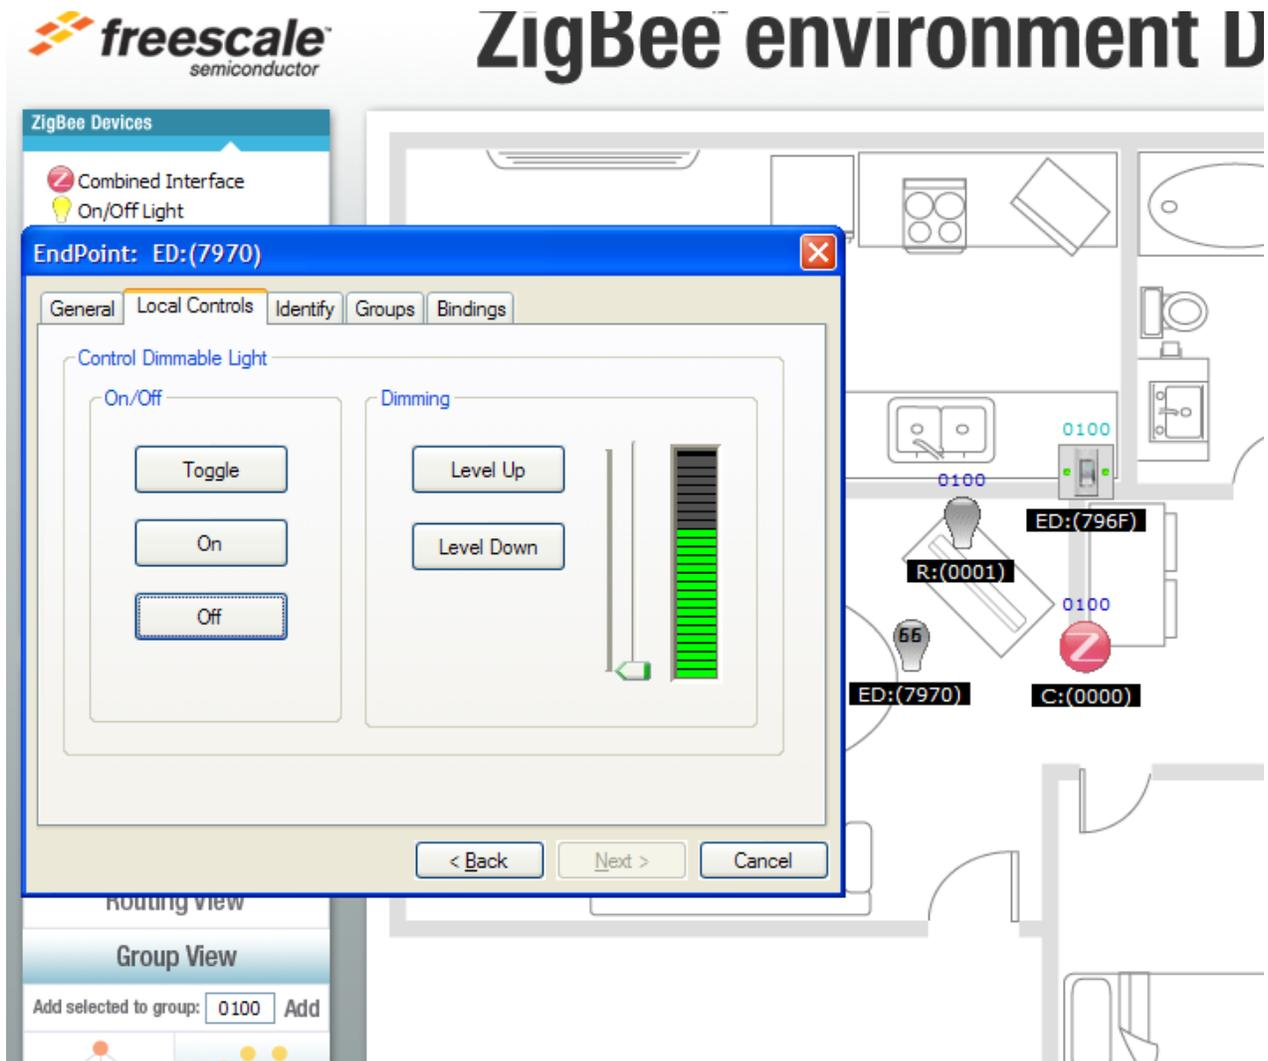

Figure 4-22. Turning Dimmable Light Off
- Press the Off button. The value (as a percentage) in the Dimmable Light icon changes state back to 0 and becomes grey to indicate that the light is off. However, the level in the Endpoint window Dimming portion remains at 66% as shown in Figure 4-22.